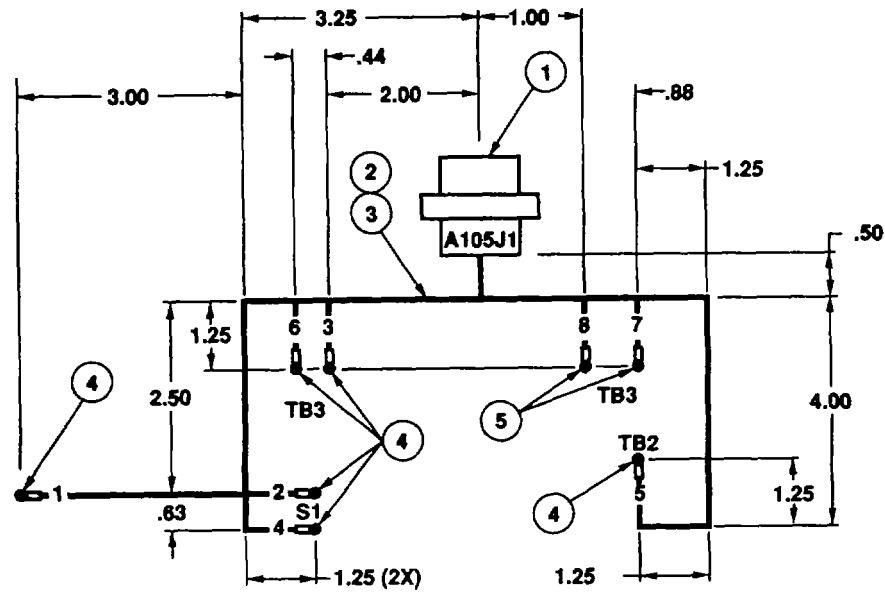

Figure F-6. Wiring Harness A105J1.
- c. Cut wire to dimensions shown in Figure F-6.
- e. Install wire in connector (1).